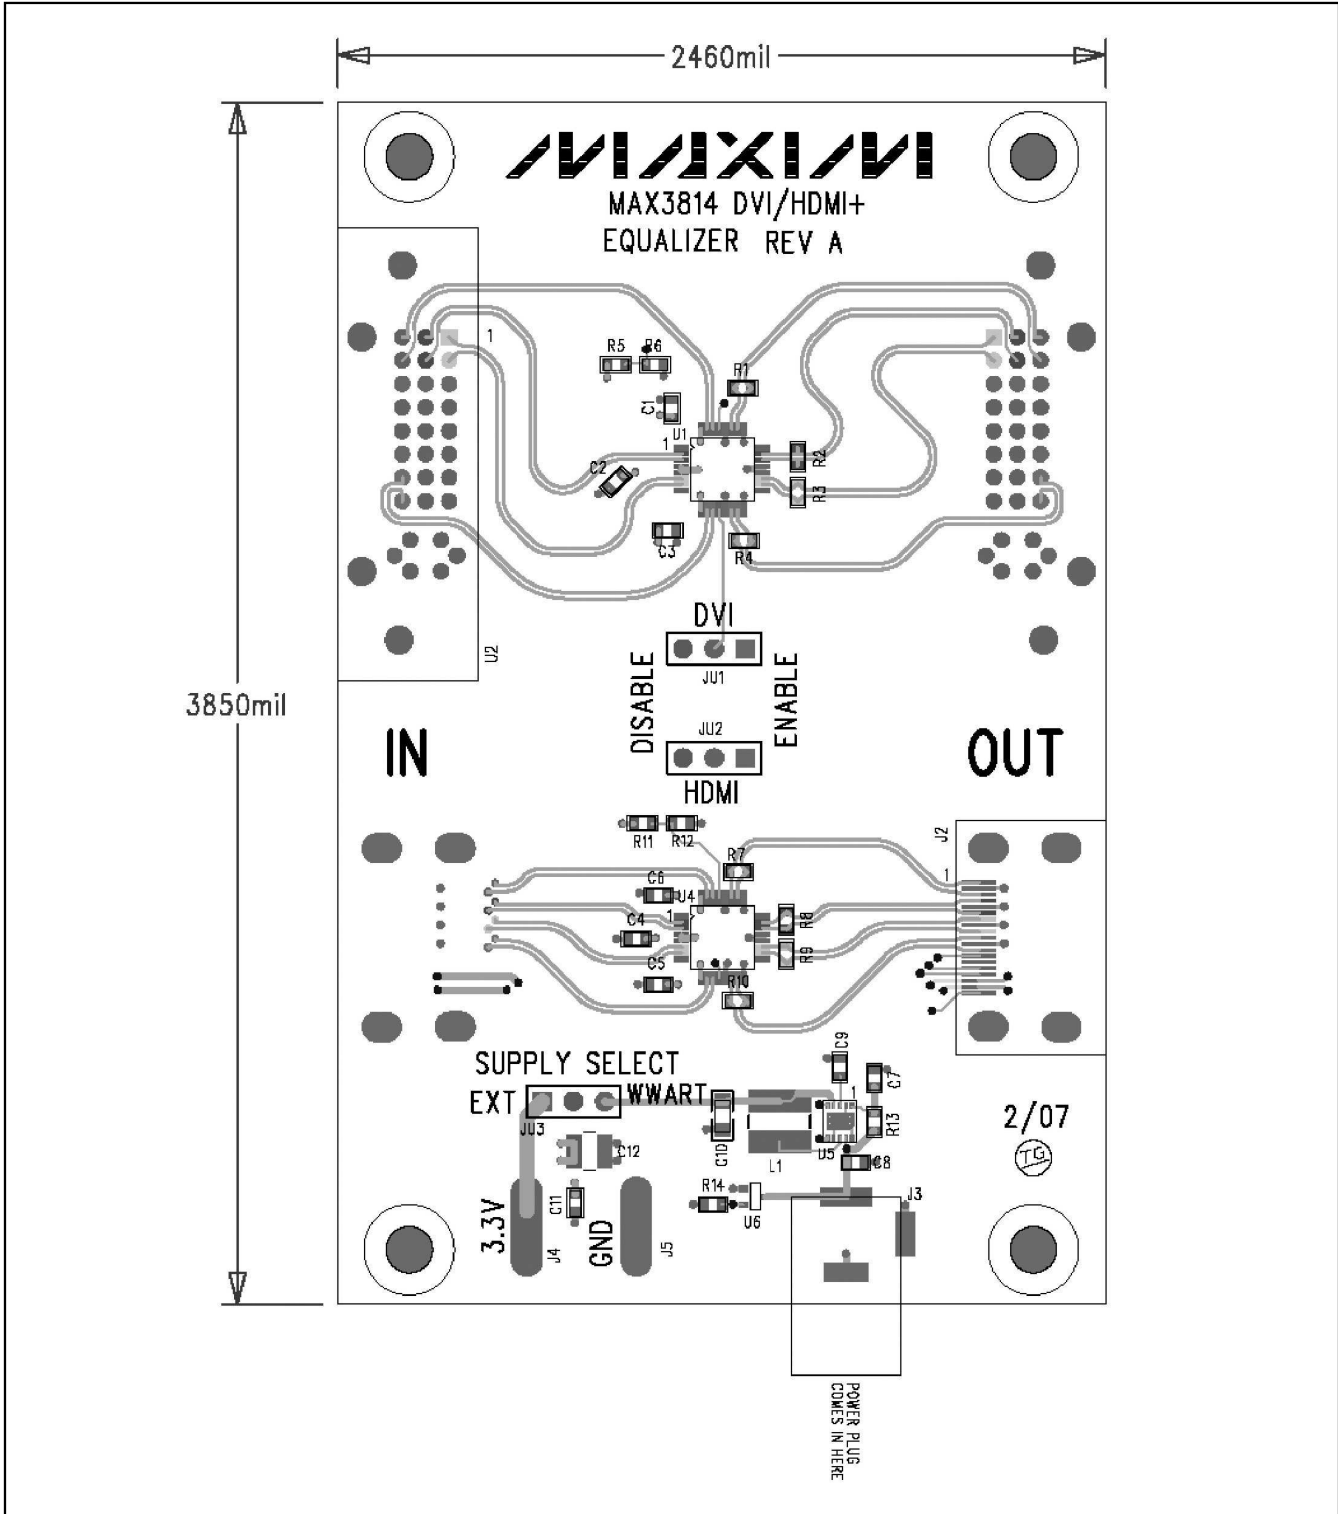

Figure 2. MAX3814 Evaluation Kit Assembly
- 2) To use a separate 3.3V supply, move the supply select jumper (JU2) to the “EXT” position. Then connect the 3.3V supply VCC to J4 (3.3V) and ground to J5 (GND). See Figure 2.